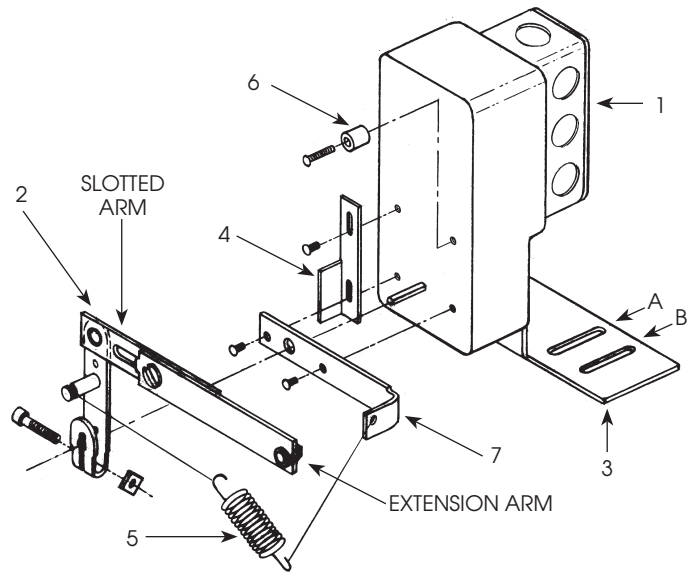

Figure 2- Attaching Motor Plate
- 1 Fasten motor plate loosely to shutter frame. Mounting hole(s) located on frame bottom (except for FGS-SP which is located at frame top – see separate installation instruction sheet). For model EAS-SP and EASR-SP, use “B” hole only. Refer to figure 2.
- 4 Tighten adjustable extension arm that was loosened in step (2) above.